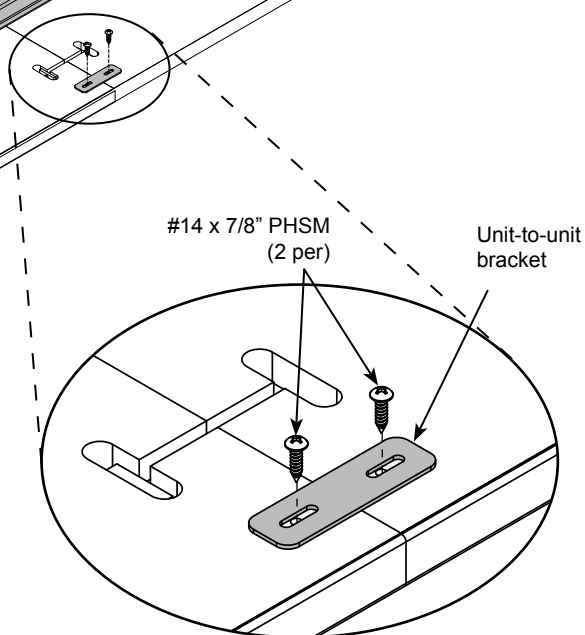

Figure 4F
7. Using (2) #14 x 7/8" PHSM screws, install each unit-to-unit bracket over the seam at the edges and tighten securely. **Figure 4F.**